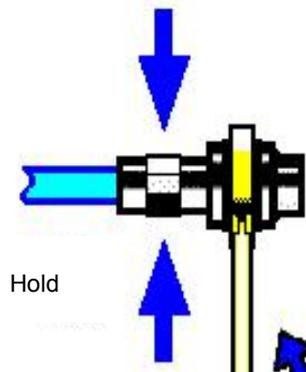

Figure 2.6 Finishing the connection with a torque wrench
Step 3. As shown in Figure 2.6, tighten the connectors with a torque wrench to complete the connection. Pay attention that the torque wrench should not exceed the initial folding point. Use an auxiliary wrench to prevent the connector from rotating.